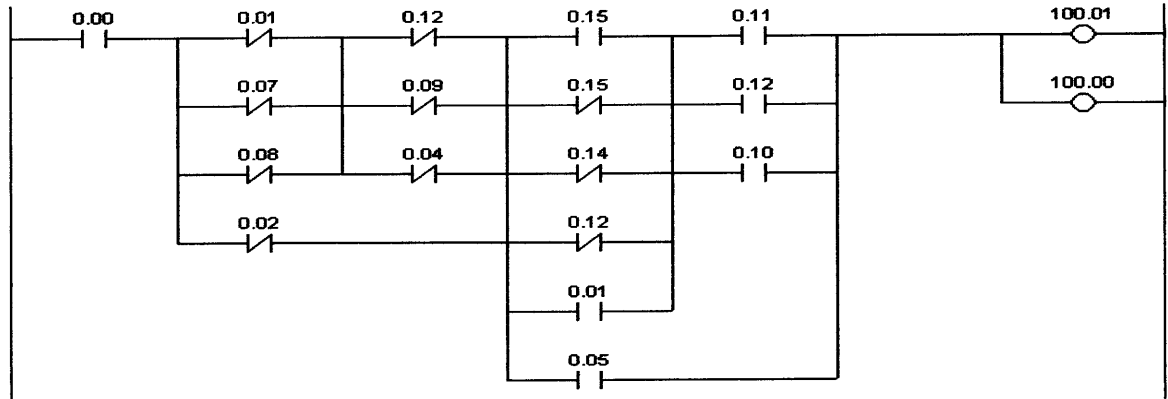

Figure Q3(a)
- Q3.** (a) Figure Q3 (a) show a ladder diagram of a system. Write the mnemonic list of the system.